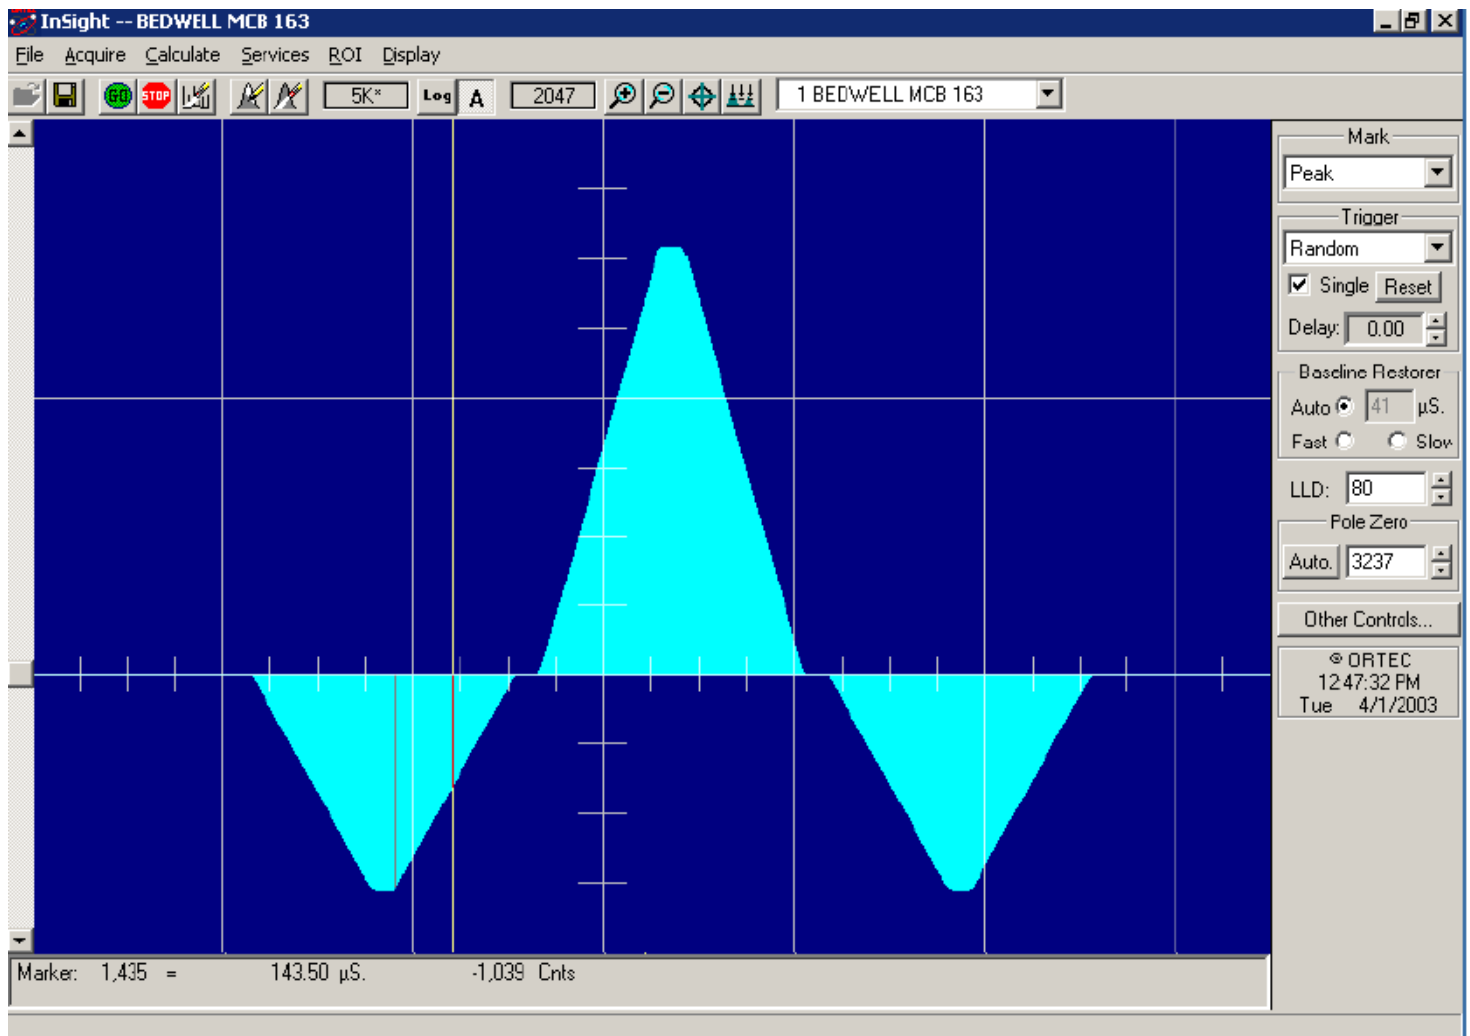

Figure 4. LFR-Enabled Digital Filter.
The ORTEC LFR filter removes most of the microphonic noise by estimating the microphonic-induced error signal on a pulse-by-pulse basis and subtracting the estimated error signal from the trapezoid output. As noted above, the error signal is proportional to the slope of the baseline during the energy measurement. If the slope is known, then so is the error introduced by the microphonics. An excellent estimate of the slope can be obtained by using the trapezoidal filter itself to measure the slope both before and after the energy measurement. Since the digital filter is always sampling the input signal, it is only necessary to store (1) the values measured before the event is detected, (2) the gamma-ray energy measurement, and (3) the values measured after the event is detected. The modified trapezoidal digital filter for LFR from an InSight Virtual Oscilloscope trace is shown in Fig. 4. A suitably weighted and averaged value of the before and after slope measurement is then subtracted from the energy measurement producing a measurement essentially free of microphonic noise. Although the inherent increase in the pulse processing time increases the dead time of the system, the resolution can be greatly enhanced when periodic noise is present.